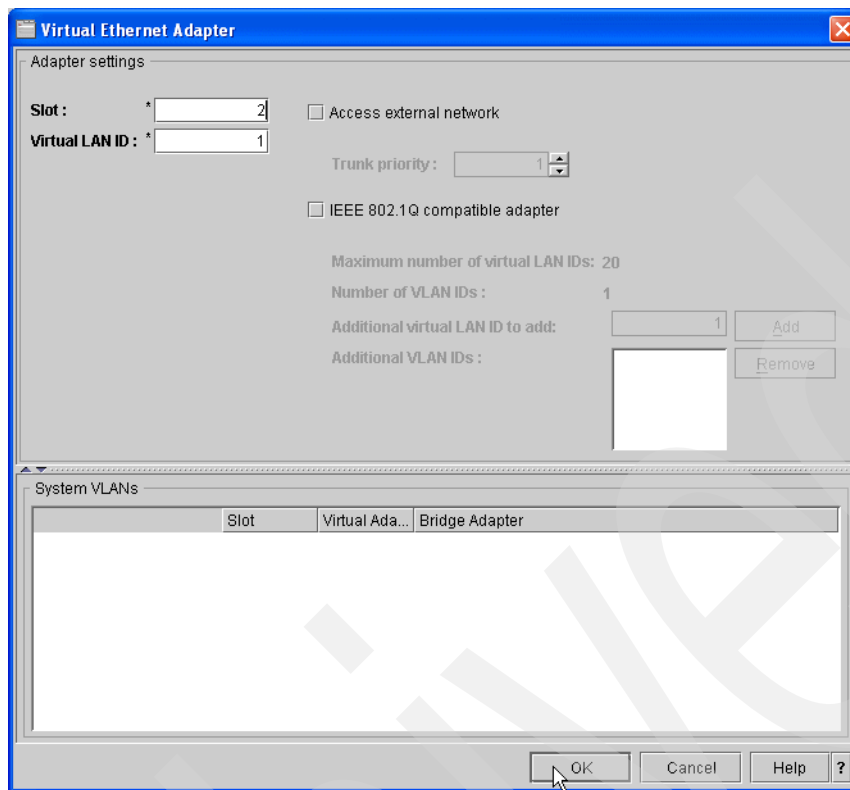

Figure 8-9 Creating Virtual Ethernet resources - 2
- Click **Create adapter**. The window in Figure 8-9 on page 319 appears. The next available slot (2 in this example) and the default Virtual LAN ID (1) are shown in this example.